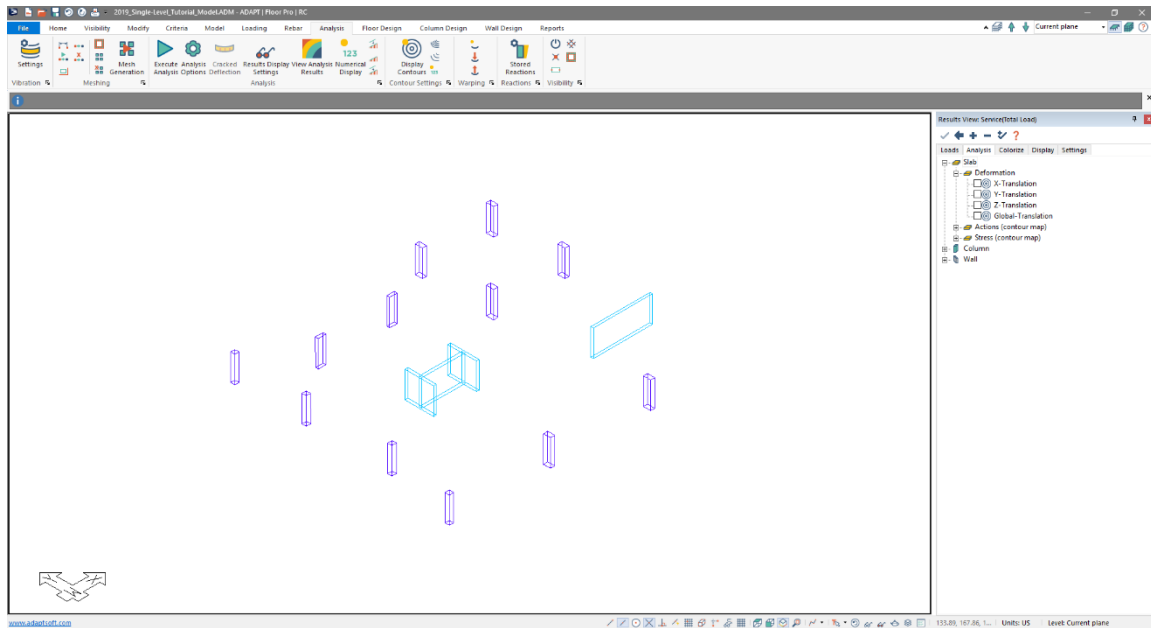

Figure 3-16
- Click the *OK* button to close the window. The user should now see a view of the column and wall stacks as shown in **FIGURE 3-16**.